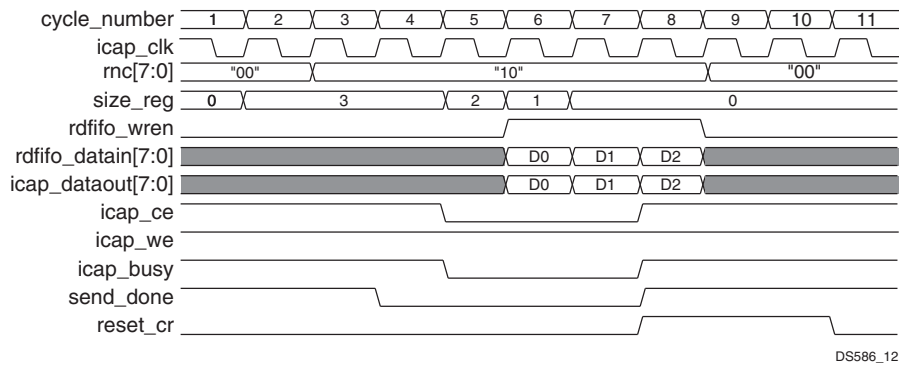
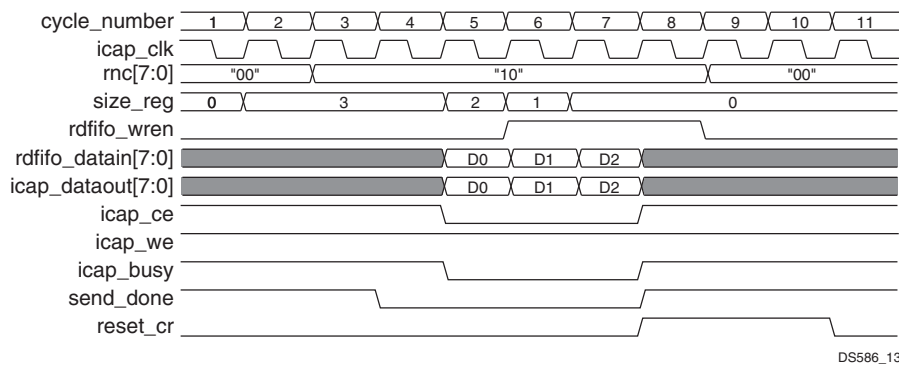
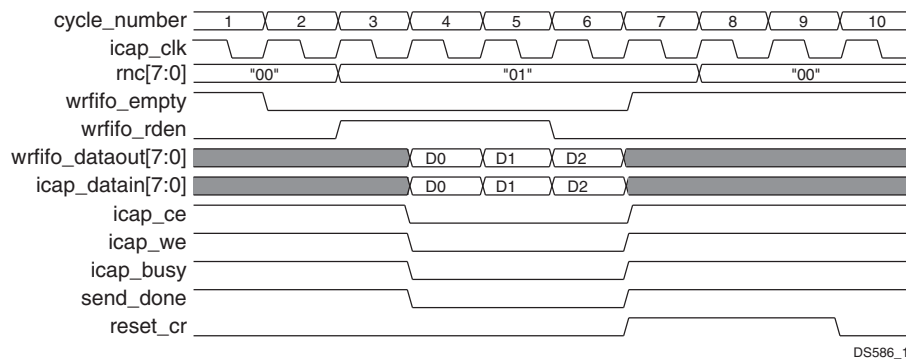

Figure 12: Read Cycle for Virtex-6 Devices
Figure 13: Read Cycle for Spartan-6 Devices
Figure 14: Write Cycle
- Write in to the Control Register \(CR\) to initiate the read or write of bit-stream. The CR register determines the direction of the data transfer. Writing "0x00000001" in to the Control Register \(CR\) initiates the write configuration. Writing "0x00000002" in to the Control Register \(CR\) initiates the read. This is shown as rnc[7:0] in Figure 12, Figure 13 and Figure 14.
- Write in to the Control Register \(CR\) to initiate the read or write of bit-stream. The CR register determines the direction of the data transfer. Writing "0x00000001" in to the Control Register \(CR\) initiates the configuration. Writing "0x00000002" in to the Control Register \(CR\) initiates the read. This is shown as rnc[7:0] in Figure 12, Figure 13 and Figure 14.
The timing diagrams shown in Figure 12, Figure 13, and Figure 14 show the read and write cycles of AXI HWICAP core for the Virtex-6 and Spartan-6 FPGAs.